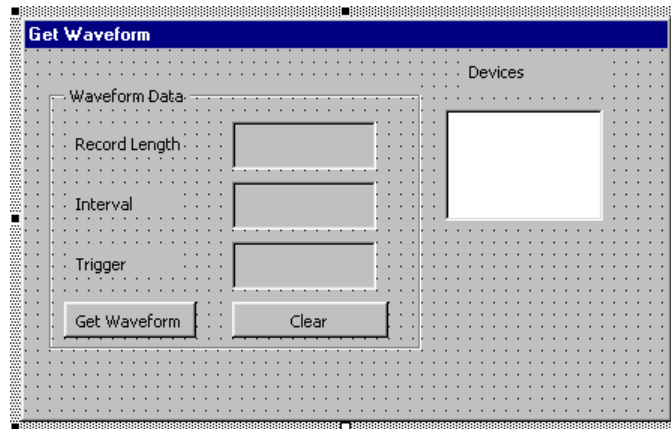

Figure 13: The redesigned form for Get Waveform
- Change the rest of the captions and sizes for controls as shown in Table 7 so that the form looks like Figure 13.